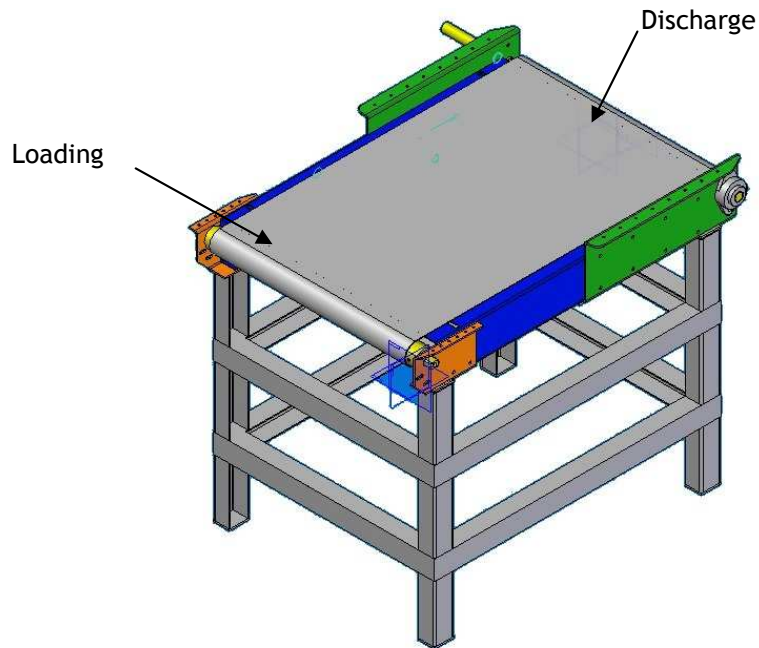

Figure 2. Belt conveyor
In Figure 2 the belt conveyor that has to be designed is shown. The technical features that has to complete are:
- The belt conveyor is supported in a steel basement as depicted in Figure 2. Belt conveyor